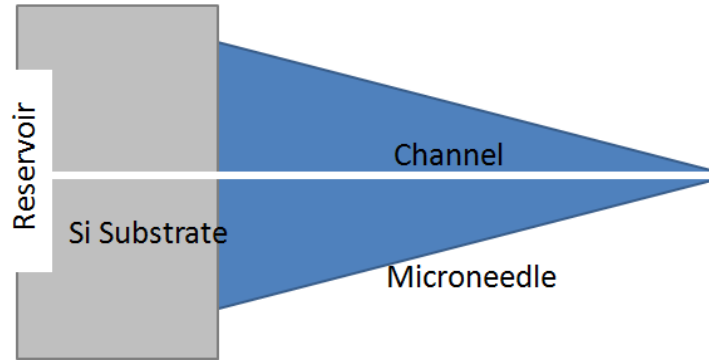

Figure 4. Cross section of a microneedle.
3. This problem concerns the mechanical robustness of a microneedle with a square cross section $W(x) = H(x)$ summarized in Figures 4 and 5. Assume the small channel in the middle of the microneedle has negligible effects on its mechanical properties, which is a fair approximation if the dimensions of the channel are much smaller than those of the microneedle.
- (a) Derive the stiffness of the structure with respect to a vertical z -directed force $F(\text{part A})$ applied at the tip as shown in Figure 4.